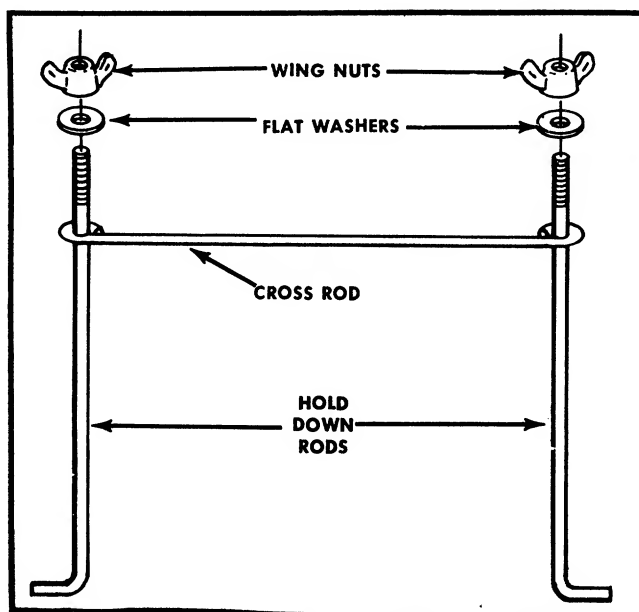

FIGURE 2. HOLD DOWN ASSEMBLY
- Step 3. Attach the negative cable to the negative battery terminal. The negative cable is marked (N).
Step 4. Assemble the hold down rods and cross rods with the flat washer and wing nut. See Figure 2.